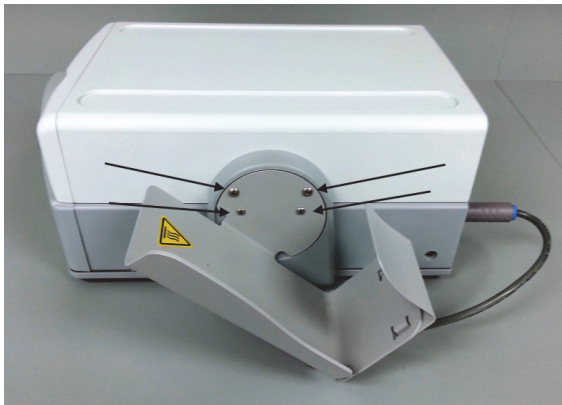

Figure 1
3. Remove Water Bottle Warmer by removing the retaining screws (4). Refer to figure 1.